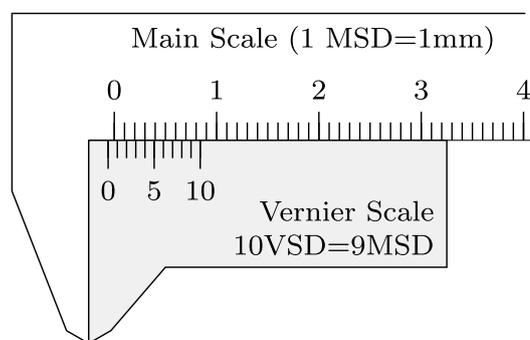

Figure 5: Example 2: Vernier calipers with negative zero error.
**Example 2.** The jaws of the Vernier calipers, shown in Figure 5, are in contact with each other. Find the zero error of this Vernier calipers.